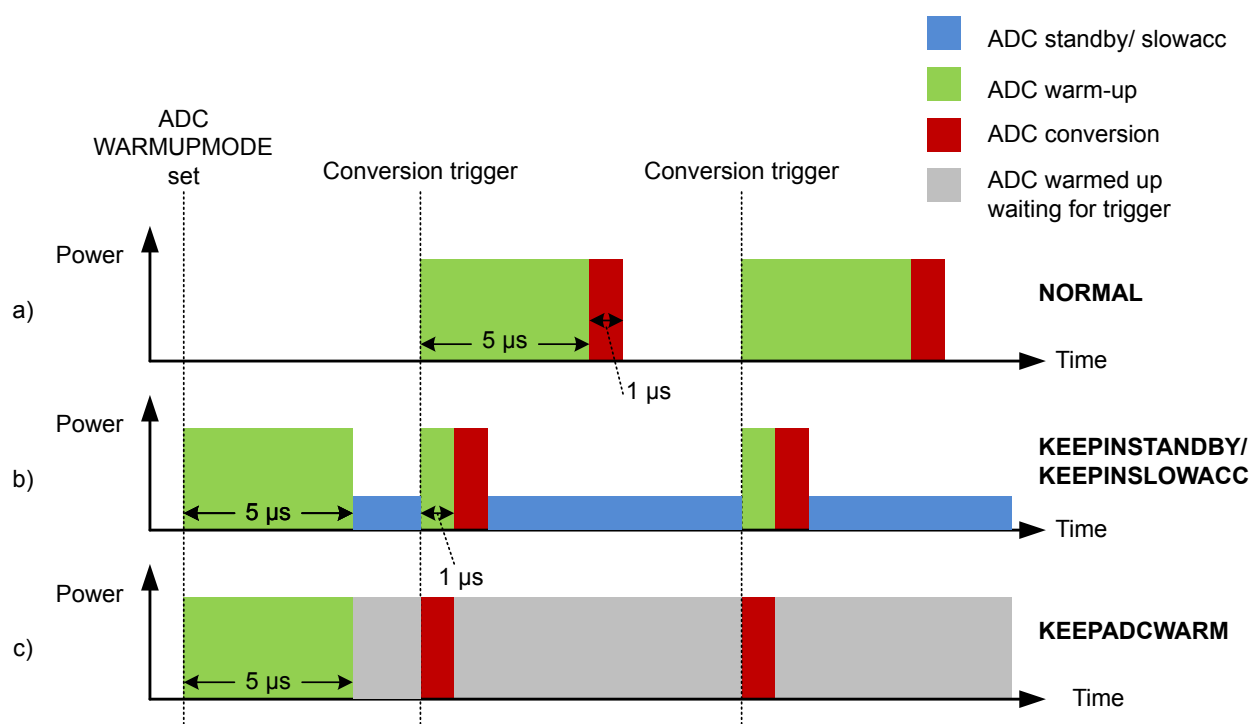

Figure 24.4. ADC Analog Power Consumption With Different WARMUPMODE Settings
Normally, the ADC will be warmed up only when samples are requested and is shut off when there are no more samples waiting. However, if lower latency is needed, configuring the WARMUPMODE field in ADCn_CTRL allows the ADC and/or reference to stay warm between samples, reducing the warm-up time or eliminating it altogether. Figure 24.4 ADC Analog Power Consumption With Different WARMUPMODE Settings on page 757 shows the effects on analog power consumption in scenarios using different WARMUPMODE settings.
- **NORMAL:** This is the lowest power option for general-purpose use and low sampling rates (below 35 ksp/s). The ADC and references are shut off when there are no samples waiting. The ADC does not consume any power when it is shut down. A 5 μ s warmup time will be initiated prior to every conversion. Figure a in Figure 24.4 ADC Analog Power Consumption With Different WARMUPMODE Settings on page 757 shows this mode.
- **KEEPINSTANDBY:** This mode is suitable for infrequent sampling of lower impedance inputs, and is the lowest power option for sampling rates between about 35 and 125 ksp/s. It may also be useful for lower sampling rates where latency is important. The reference selected for scan mode is kept warm, but the ADC is powered down. The ADC will initiate a 1 μ s warmup period before a conversion begins. Because the reference is kept warm, the ADC will consume a small amount of standby current when it is not converting. Figure b in Figure 24.4 ADC Analog Power Consumption With Different WARMUPMODE Settings on page 757 shows this mode.
- **KEEPADCWARM:** This mode provides the lowest latency and allows for maximum sampling rates. The ADC and reference circuitry remain powered on even when conversions are not in progress. Figure c in Figure 24.4 ADC Analog Power Consumption With Different WARMUPMODE Settings on page 757 shows this mode. This mode consumes the most power, but as soon as a trigger event occurs, the acquisition and conversion begin with no warm-up time. Note that if KEEPADCWARM mode is set and HFXO is selected as the ADC clock source, the HFXO will remain on in EM2.